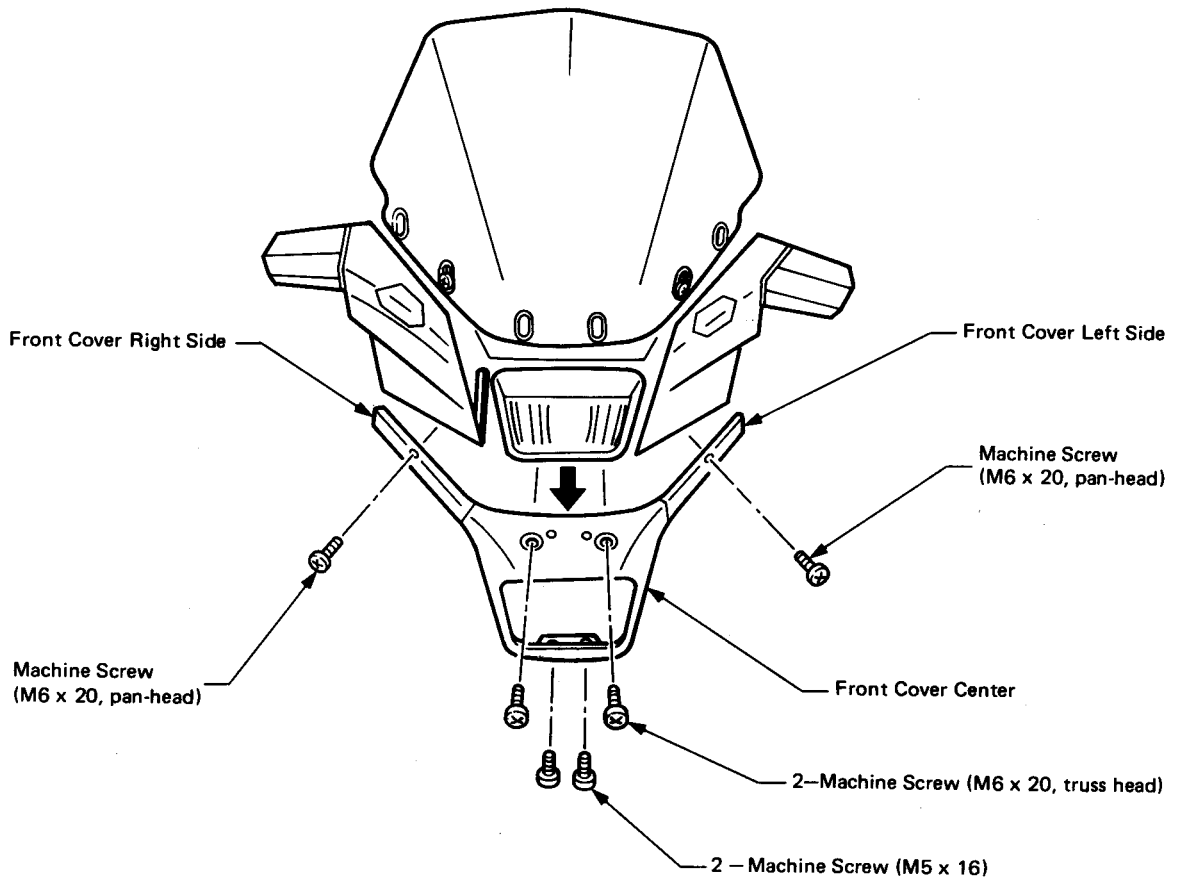

Fig. 2
- 2.** (1) Remove the screws and the Front Cover, as shown in Fig. 2.